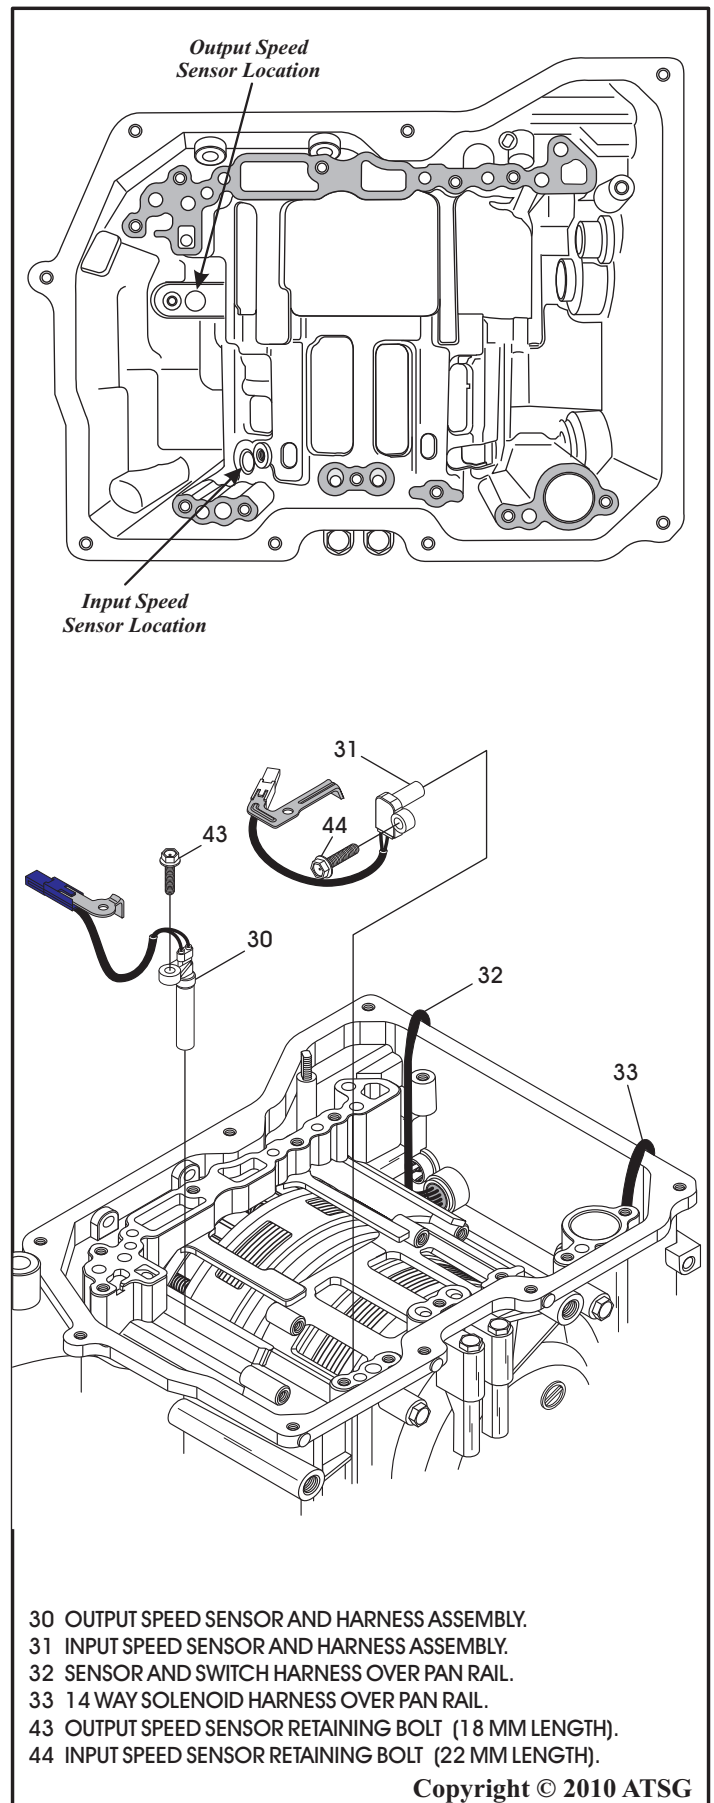

Figure 62
27. Remove the output speed sensor retaining bolt and output sensor, as shown in Figure 62.
28. Remove the input speed sensor retaining bolt and the input sensor, as shown in Figure 62.